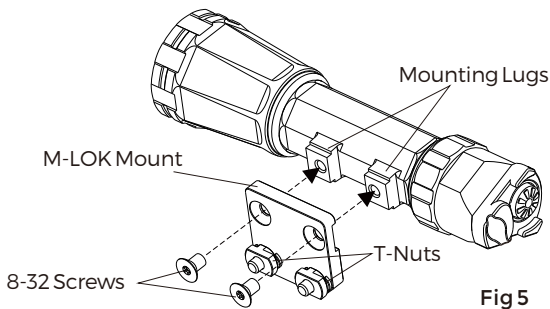

Fig 5
- 1) Align the holes of the M-LOK Mount with the threaded holes of the mounting lugs on the RAID body. Using two included 8-32 screws to attach the M-LOK Mount to the mounting lugs. Then using the included tool tighten the screws to 15-20 INCH/lbs. (See Fig 5)